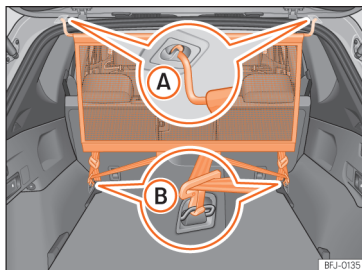

Fig. 168 Net partition fitted.
- Secure the net partition in the left housing of the roof » » Fig. 168 A. Make sure to move the cross rod down beyond the upper position.
- Hook in the net partition on the rear right-hand side roof housing by pressing on the rod » » Fig. 168 A.
- Secure two hooks of the partition net to the fastening rings of the boot » » Fig. 168 B and tighten the straps firmly.
- Release the net hooks from the fastening rings » » Fig. 168 B.
- Unhook the net partition on the right-hand side roof support » » Fig. 168 A by pressing on the rod.